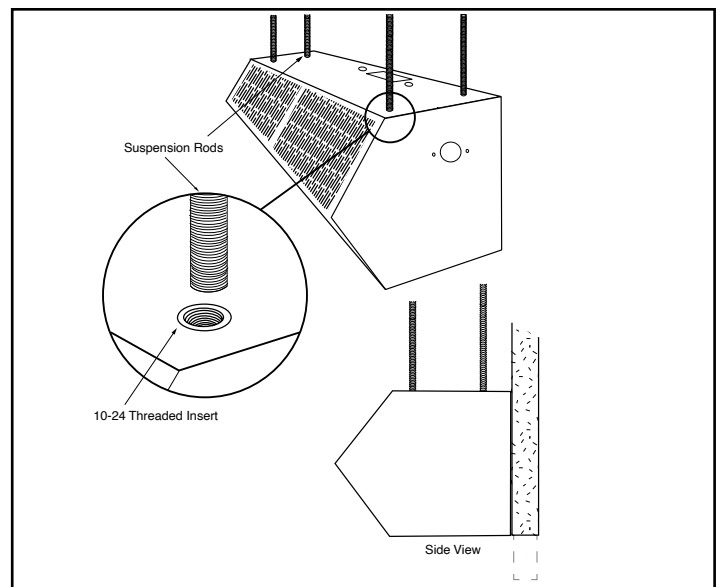

FIGURE 6 - Suspended Mounting
- Four (4) factory installed #10-24 threaded inserts are located on the top of the unit for top suspension mounting. **See FIGURE 6.**